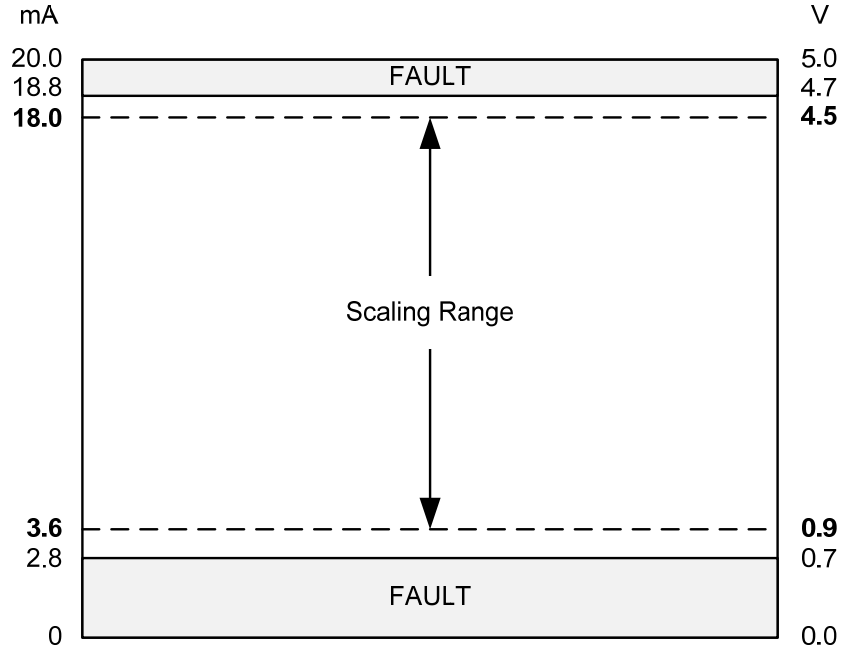

Figure 22. 4 to 20 mA Analog Input Limits
- Signal Type 4-20 mA: The software establishes a range between 0.9 V to 4.5 V for this signal type as shown in Figure 22. Fluctuations above and below this range can be misread by the system. The signal is treated as a fault if it is greater than 18.8 mA or less than 2.8 mA. Using CHP Water Flow Rate as an example, a current signal (using a 250 Ohm resistor) of 3.6 mA (0.9 V) represents 0 gpm and a current signal of 18 mA (4.5 V) represents 80 gpm. Therefore, a midrange signal of 10.8 mA (2.7 V) would represent 40 gpm.